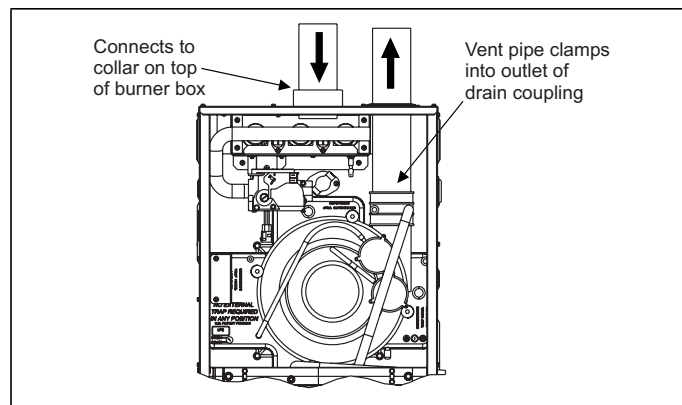

FIGURE 38: Direct Vent Air Intake Connection and Vent Connection
1. **OUTDOOR COMBUSTION AIR:** This is a direct vent configuration where the combustion air is supplied through a PVC or ABS pipe that is connected to the PVC coupling attached to the furnace and is terminated in the same atmospheric zone as the vent. This type of installation is approved on all models. Refer to Figure 38.
This installation requires combustion air to be brought in from outdoors. This requires a properly sized pipe (Shown in Figure 38) that will bring air in from the outdoors to the furnace combustion air intake collar on the burner box. The second pipe (Shown in Figure 38) is the furnace vent pipe.